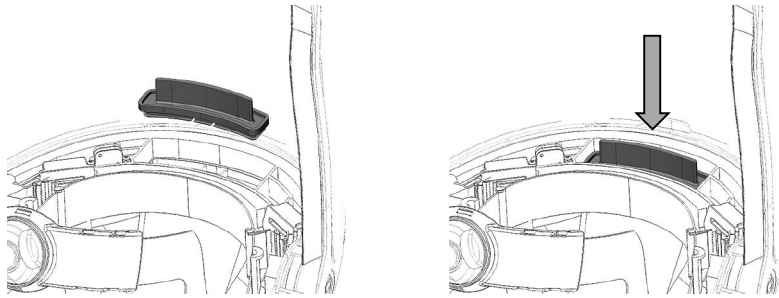

Figure 19
- Before cleaning remove face seal, brow pad, crown pad, nape pad, HEPA filter with cover along with the rechargeable battery. Insert provided cleaning plugs as shown at Figure 19-Figure 21